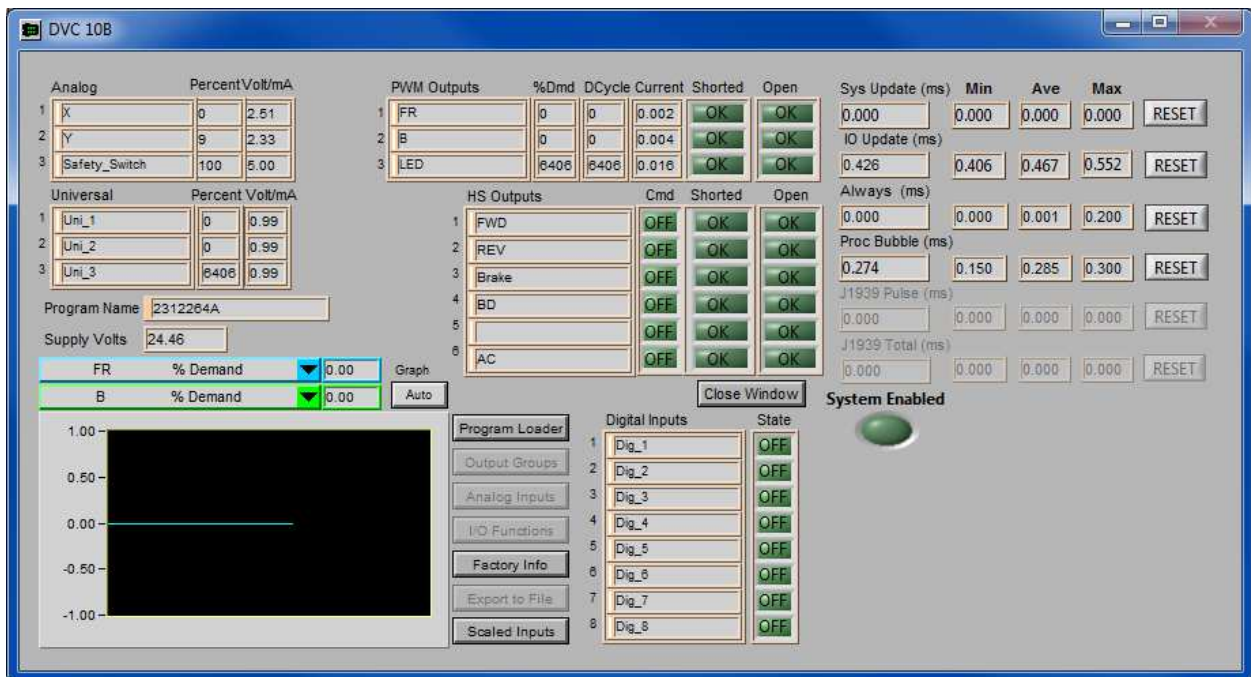

Figure 3 – DVC 10B Monitor Window
5) Select the 'DVC 10B Master Button'. This will launch the monitor window (see Figure 3).